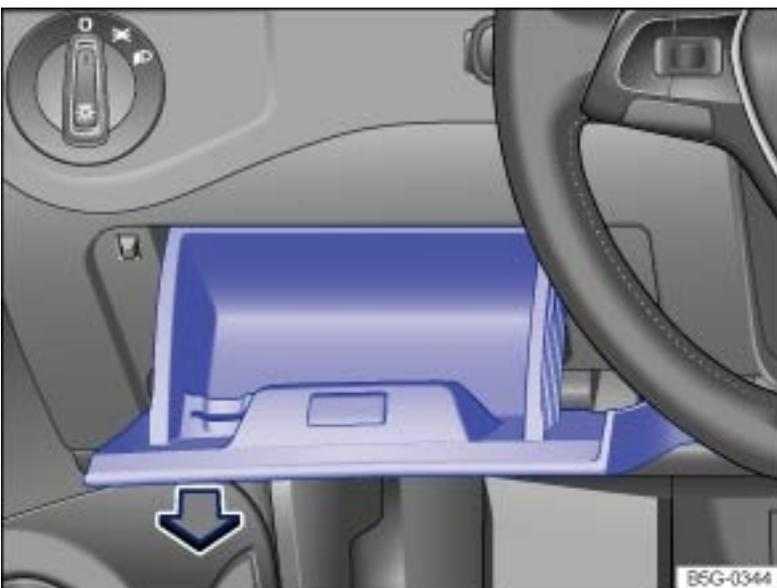

Fig. 220 On the driver side in the instrument panel: Fuse box cover.
- ▶ Pull the lower part of the cover toward the steering wheel (in the direction of the arrow → Fig. 220) and remove the cover from the bottom. This action may require moderate force.
- ▶ To install, guide the cover from the bottom into the instrument panel and push in the direction opposite to the arrow → Fig. 220 until you can hear it latch into place.